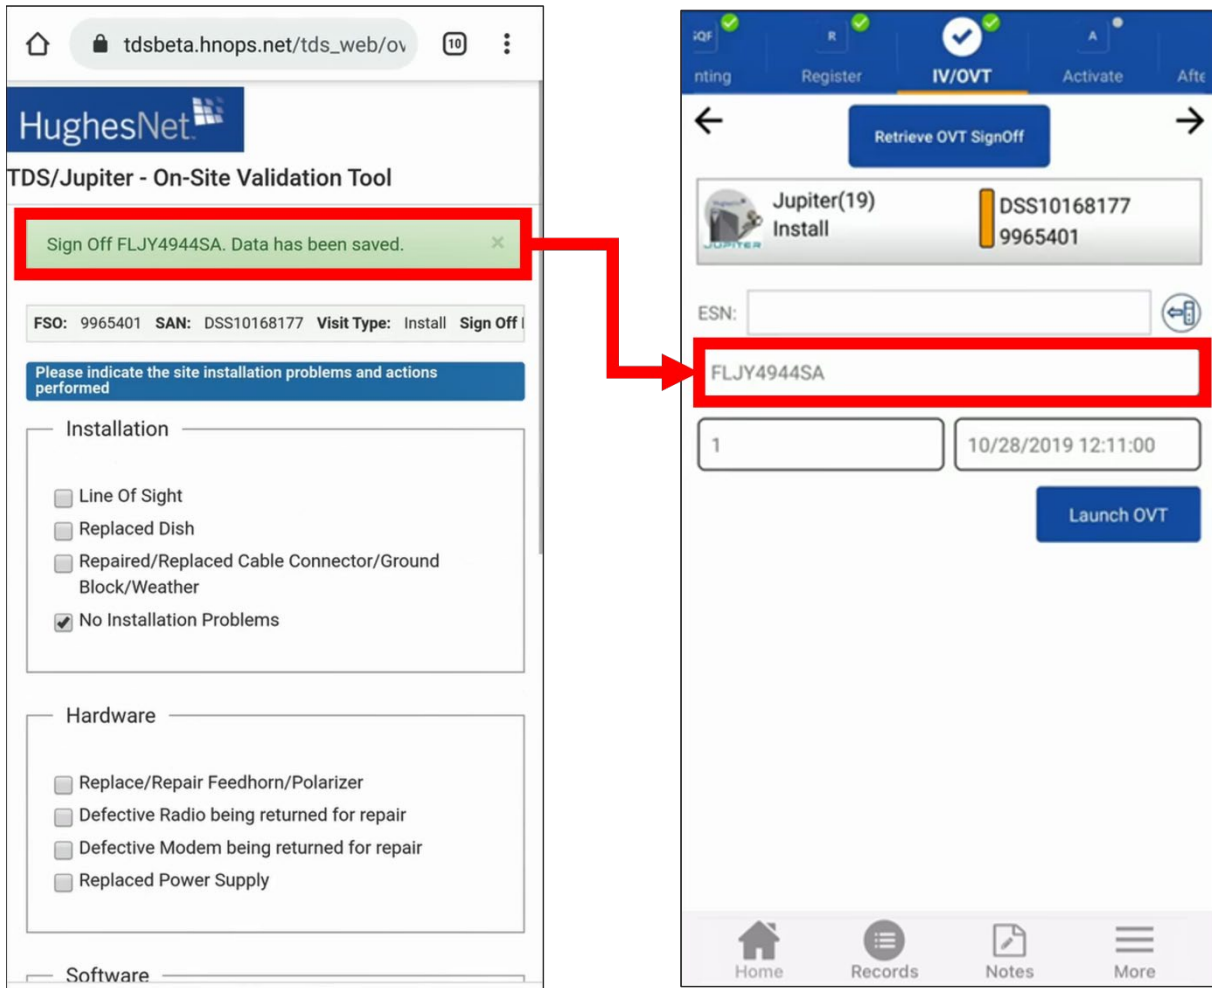

Figure 76: OVT step – signoff number
9. On the page that launches (Figure 76), select any installation problems or extra actions performed during the installation. If you had no problems, tap the *No Installation Problems* checkbox.
10. Tap **Sign Off** (outlined in Figure 76 on page 64).